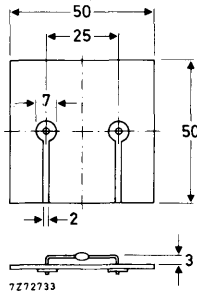

Fig. 2 Mounted on a printed-circuit board.
- Thermal resistance from junction to ambient when mounted on a 1,5 mm thick epoxy-glass printed-circuit board; Cu-thickness $\geq 40\text{ }\mu\text{m}$; Fig. 2